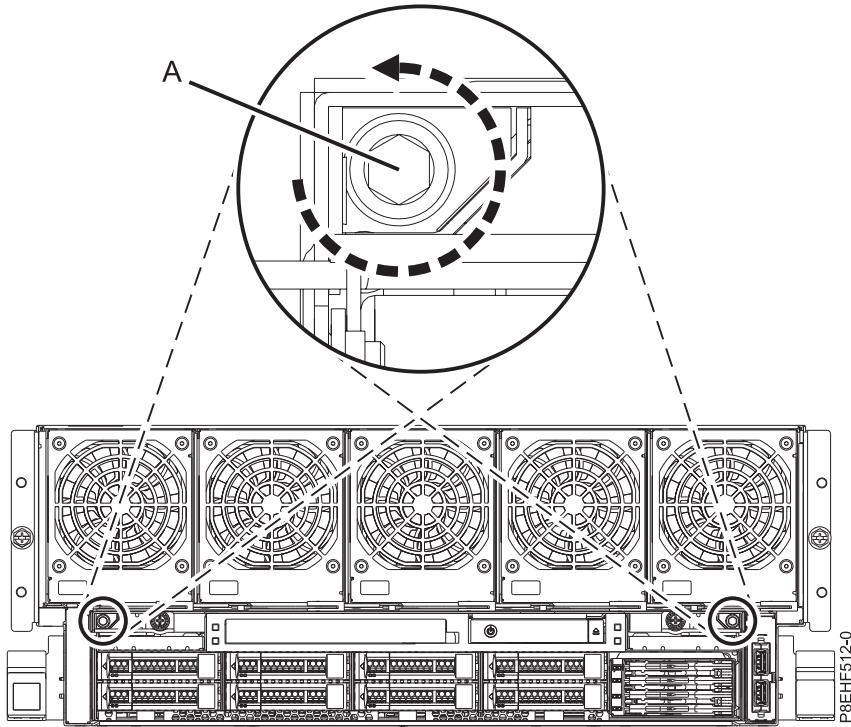

Figure 3. Loosening the shipping screws
- a. Loosen, but do not remove the recessed shipping screws (**A**) in the RAID assembly by using a 4 mm Allen wrench, as shown in Figure 3 on page 5.